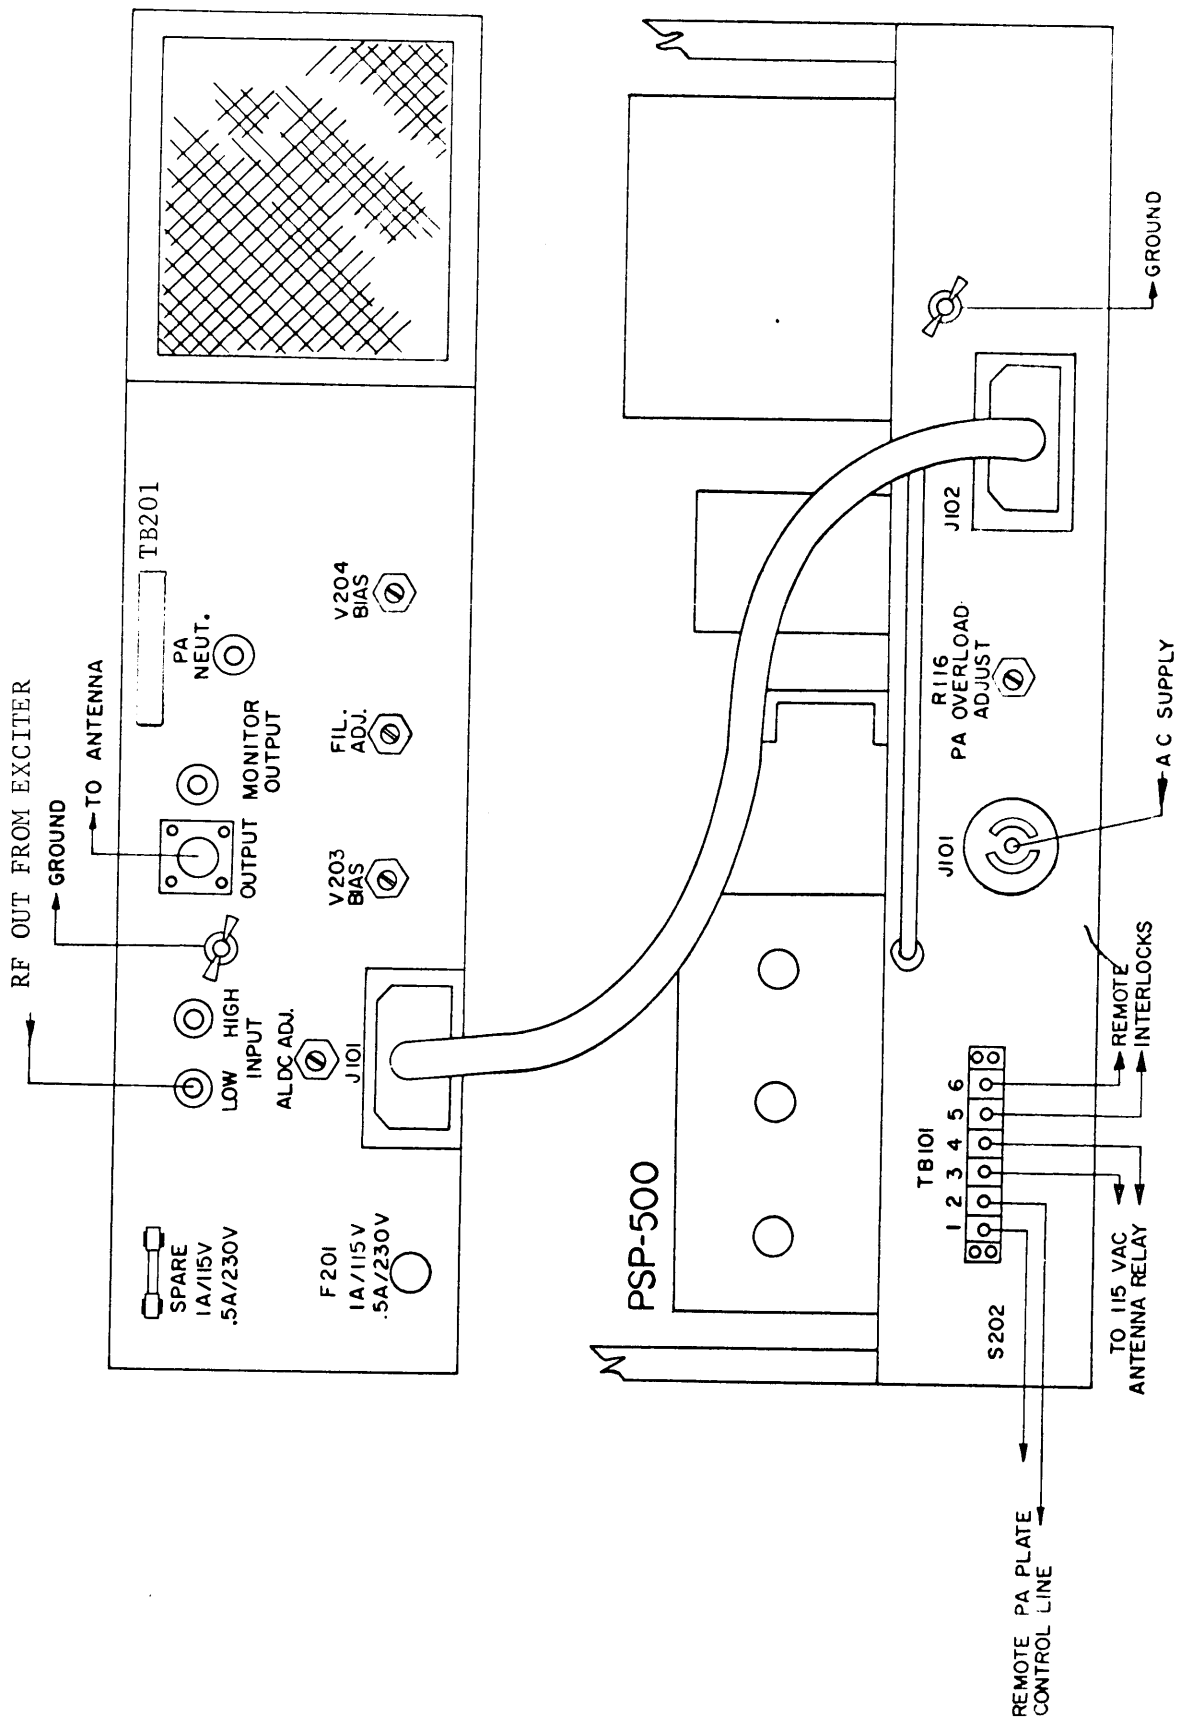

Figure 2-1. Rear Panel Connections and Adjustments
Make cable connections as shown in Figure 2-1.
- (1) Turn "H.V. LINE SWITCH" off.
- (2) Turn "TRANSMITTER PLATES" switch to "STANDBY."
- (3) Turn multimeter switch to "PA FIL."
- (4) Turn "MAIN LINE" switch "ON."
- (5) Multimeter needle should point to "FIL. ADJ." mark, equivalent to 6 volts. If not, adjust "FIL. ADJ." control on rear.
- (6) Rotate bias potentiometers R213 and R221 and the ALDC potentiometer R228 to the fully anti-clockwise position. All these controls are located on the rear of the RFE-2-4 unit. See figure 2-1.